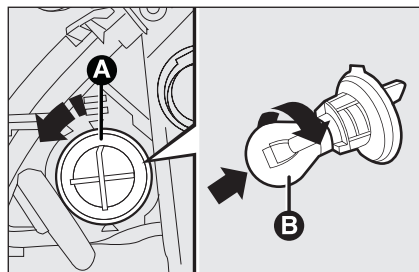

fig. 15
- ☐ turn the bulb holder clockwise **A-fig. 15** and withdraw it;